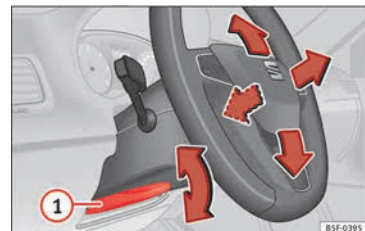

Fig. 16 Lever in the lower left side of the steering column.
• Adjusting the position of the steering wheel: Pull the » **Fig. 16** ① lever down, move the steering wheel to the desired position and lift the lever back up until it locks.